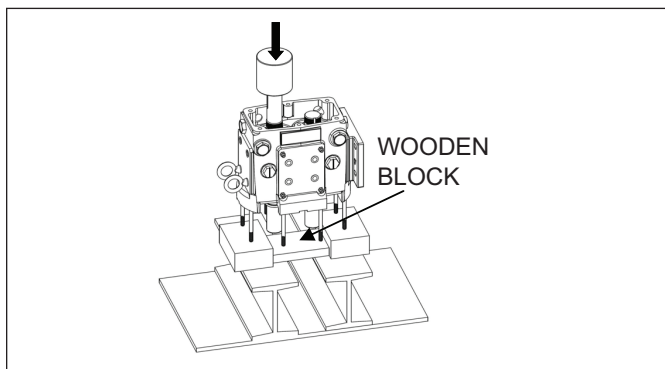

Figure 33. Pressing Shafts from Gear Case
4. Set the gear case in a press with the fluid end side facing down (Figure 33). Use a wooden block to protect the shafts from hitting the ground when pushed out. Once the protective block is in place push the shafts out of the gear case. Reference Table 4 for the required force (in tons) needed to press the shafts out of the gear case.